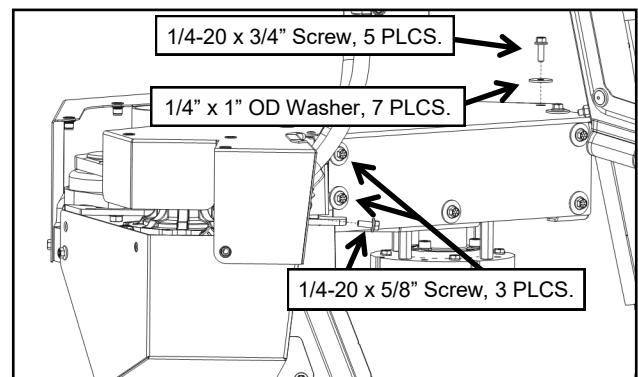

Fig. 2.31a (Right Shroud Assy. Fasteners)
- 2.31** Position the shroud assembly over the top of the engine. Referencing Figures 2.31a & 2.31b, secure with fasteners listed below.